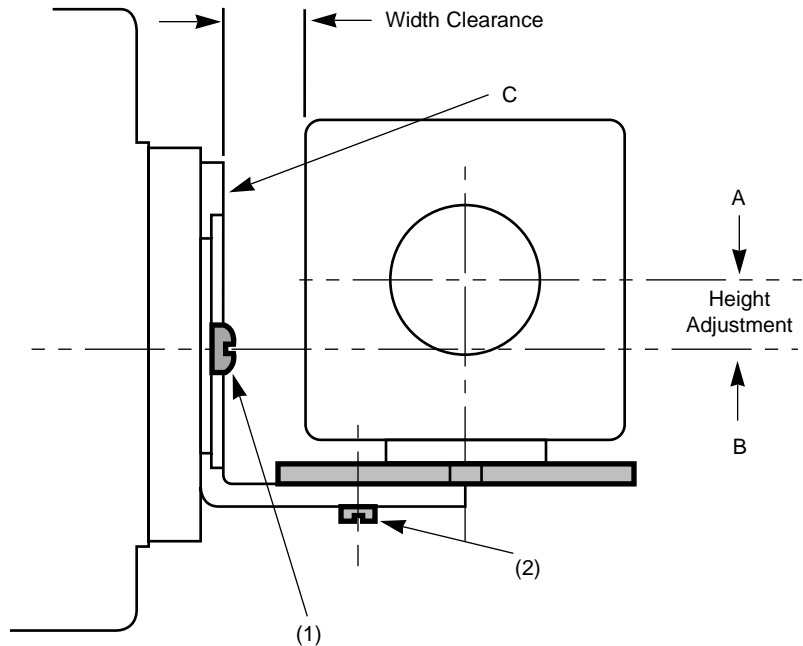

Figure 3
7. Remount the Camera Mounting Platform. Adjust the In-out position to accommodate the width of the Camera/Lens combination. Lock Screws (2) to secure the In/Out position of the Camera Platform, insuring that the Camera/Lens assembly clears the vertical portion of the Camera Platform (C). (Fig. 3).